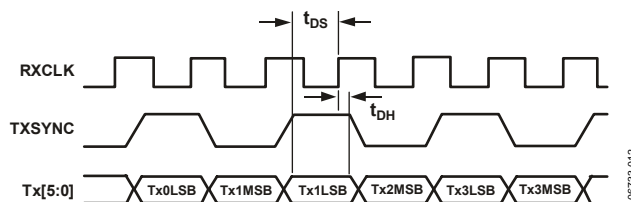

Figure 12. Tx[5:0] Port Full-Duplex Timing Diagram
3. Data from the Tx[5:0] port is read on the rising edge of this sampling clock, as illustrated in the timing diagram shown in Figure 12. Note that $\overline{TXQUIET}$ must remain high for the reconstructed Tx data to appear as an analog signal at the output of the TxDAC or IAMP.